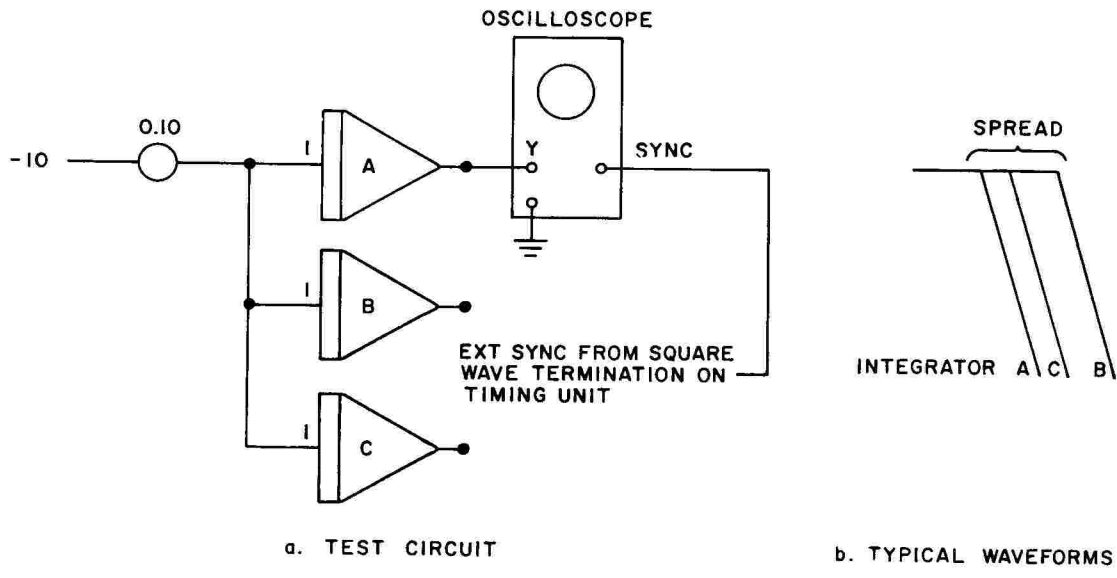

Figure 57. Locating an Integrator with an Average Start Time
- (1) Connect the circuit shown in Figure 57. Place the Mode Control switch in the HOLD position; select a compute time of 20 milliseconds. Set the vertical sensitivity of the oscilloscope to 2 volts/centimeter; set the sweep to 100 microseconds/centimeter; use external sync if necessary.
(2) Monitor the output of each of the integrators. The observed waveforms will be similar to the one in Figure 57; usually each integrator will have a different start time, i.e., integrator C starts later than A and sooner than B.
(3) Choose the integrator that starts near the midpoint of the spread as the average integrator.